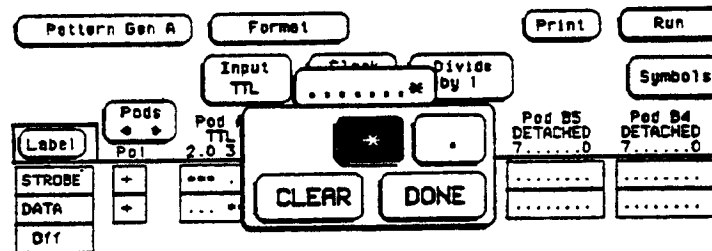

Figure 3-20. Data Output Select
- i. Select data output 0 as shown in figure 3-20. Touch Done.